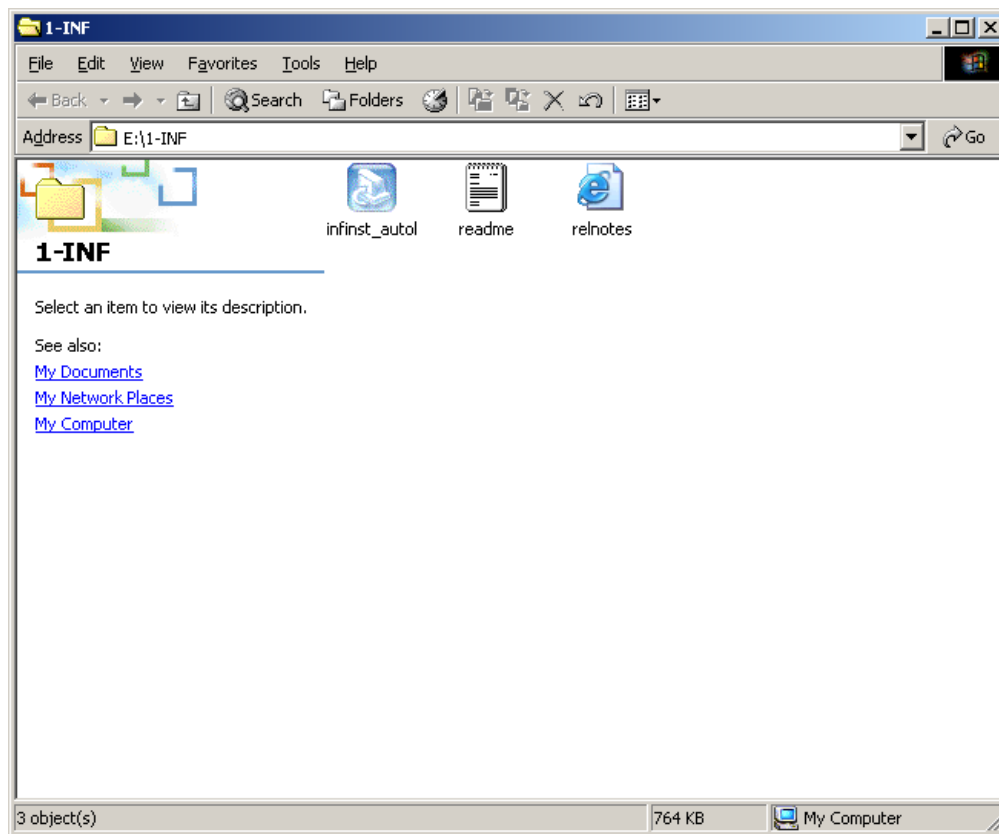

Figure 7-3: Chipset Driver Installation Program
Step 2: A new window opens (**Figure 7-3**).
Step 3: Double click the infinst_Autol icon in **Figure 7-3**.